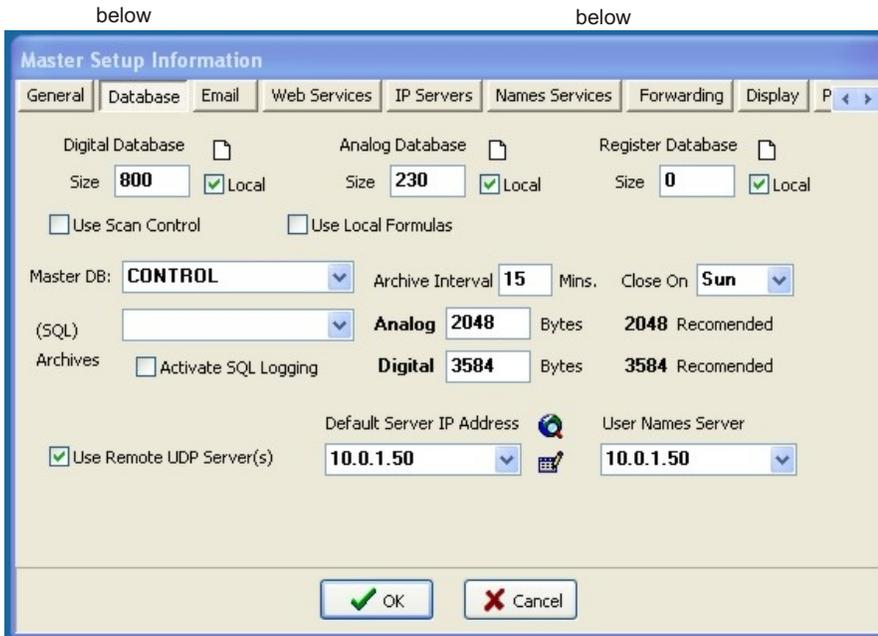

Fig. 1
2. Move the mouse downward and select 'Master Information'. Select the Database tab. **Fig. 1**